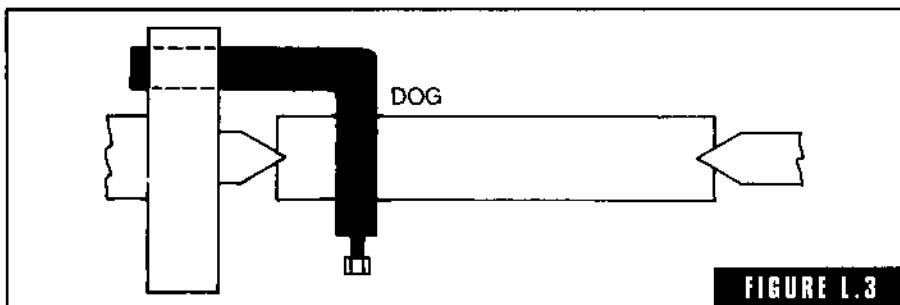

FIGURE L.3
**lathe dog** A forged or cast L-shaped device used to drive work in the lathe when turning between centers (Fig. L-3). The work is clamped in the dog jaw with a set screw or cap screws. The drive leg fits loosely into a slot in the faceplate.